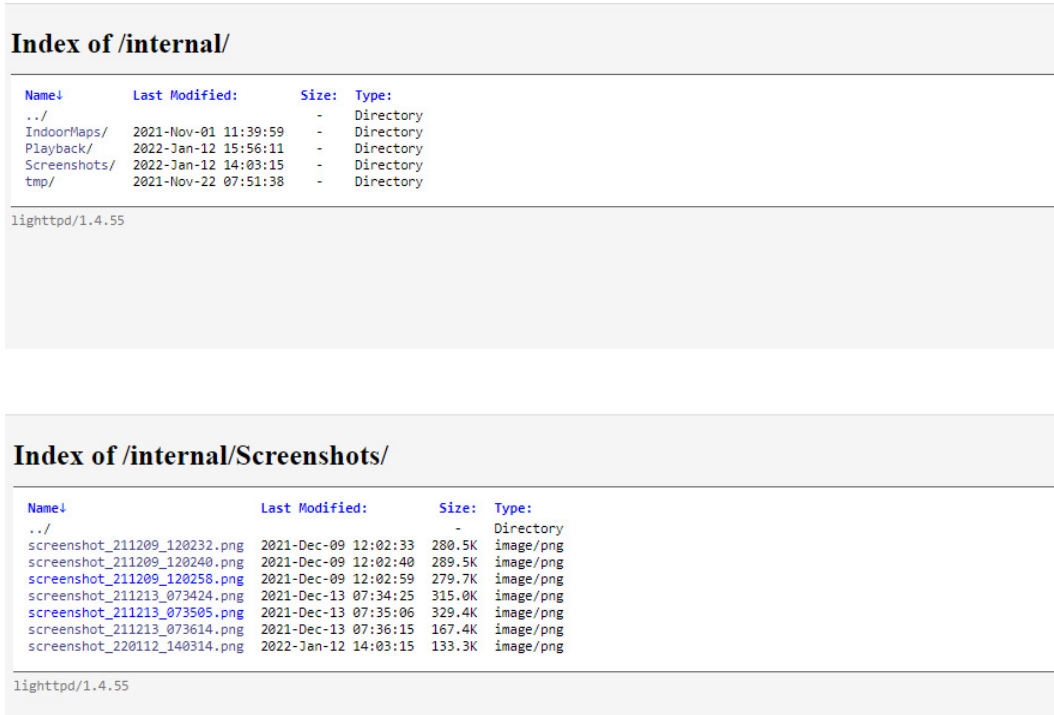

Figure C-5. Remote Files Menu
2. Click SETTINGS to access the settings menu, then select REMOTE FILES to open the default browser window and download the internally saved files for e.g. screenshots. See Figure C-5.